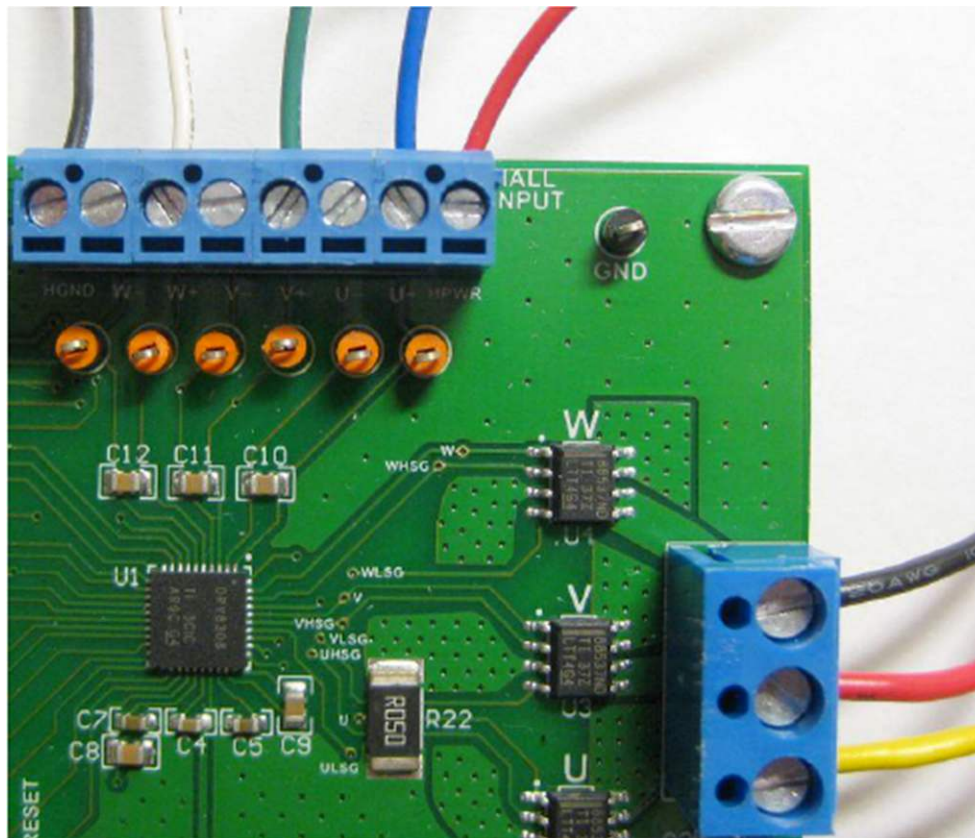

Figure 18. Wiring the Motor
Step 4. Wire the included motor to the terminal blocks as shown in Figure 18.